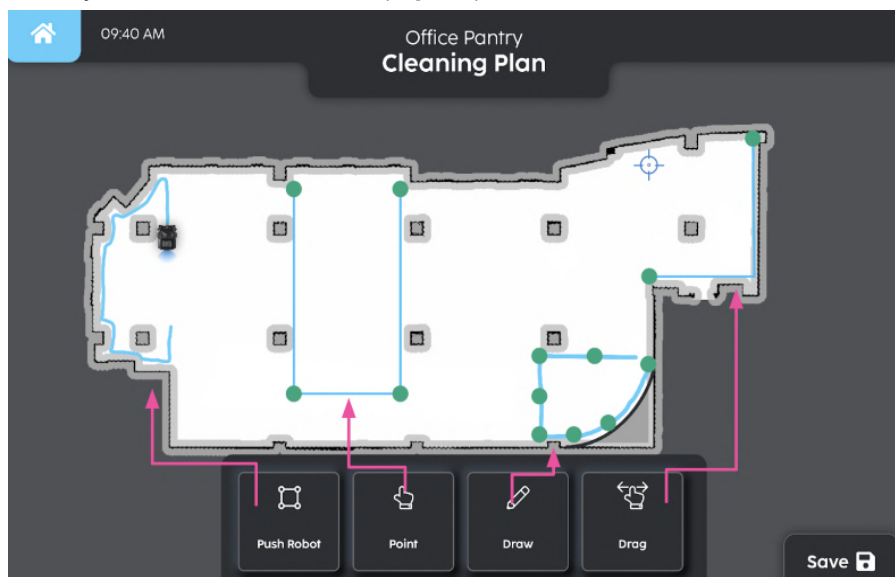

FIGURE 5-6
3. There are 4 ways to create route or area (**Fig.5-6**)